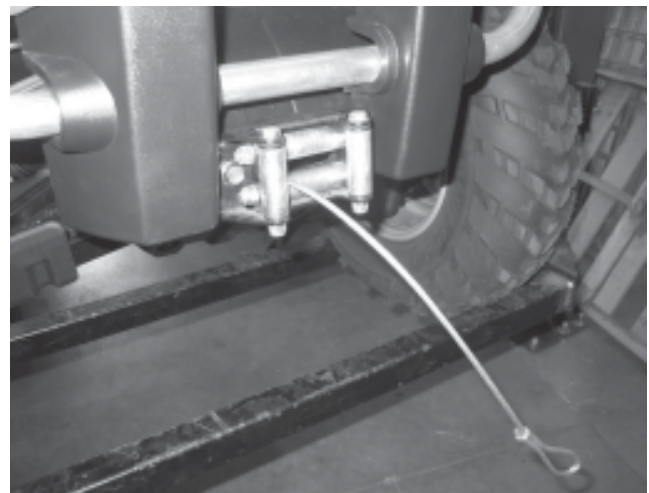

Figure 3
3. Un-spool two to three feet of cable from the winch (C1). Pull unspooled cable through fairlead when placing assembled winch and mounting bracket (A1) into position on ATV frame. See Figures 3 and 4.